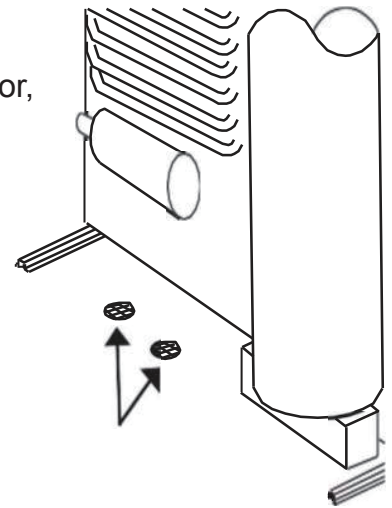

FIG 5
- Trim insulation. Cut it 2-3" shorter than the depth of the refrigerator box. See FIG 5 below.
· For vents installed above floor level, additional holes are required to vent these gases to the out-of-doors. Use Fig 5 for details.